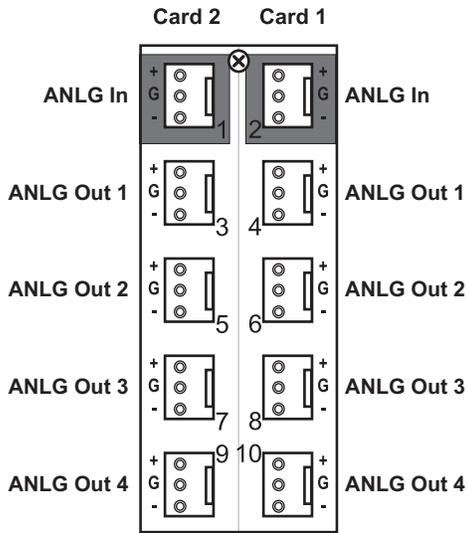

Figure 8 Cable Connections for the 8320AR-043 Rear Module
- 8320AR-043 — Each module occupies two slots and accommodates two cards. This rear module provides one analog input and four analog outputs per card. See **Figure 8**.